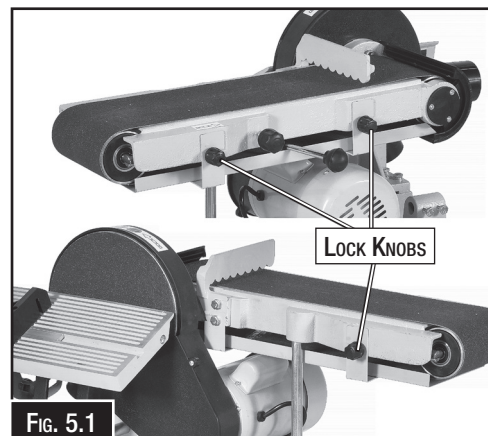

Fig. 5.1
2. Remove the belt guard by removing the three lock knobs. (Fig.5.1)